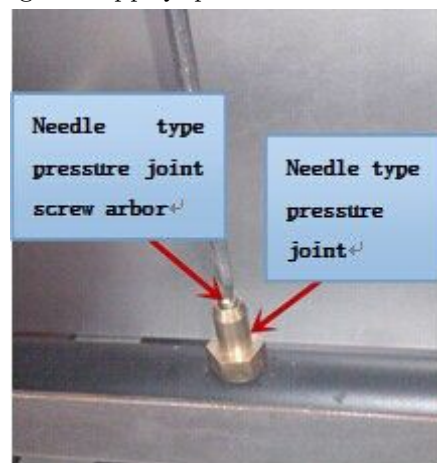

Fig.1
- Remove top panel, and needle type pressure joint screw arbor (Fig.1), then slip rubber tube of pressure gauge over needle type pressure joint;
Revolve the control valve knob clockwise to "0" (Fig.1), so that extinguish flame of the main burner, but the pilot light still works.